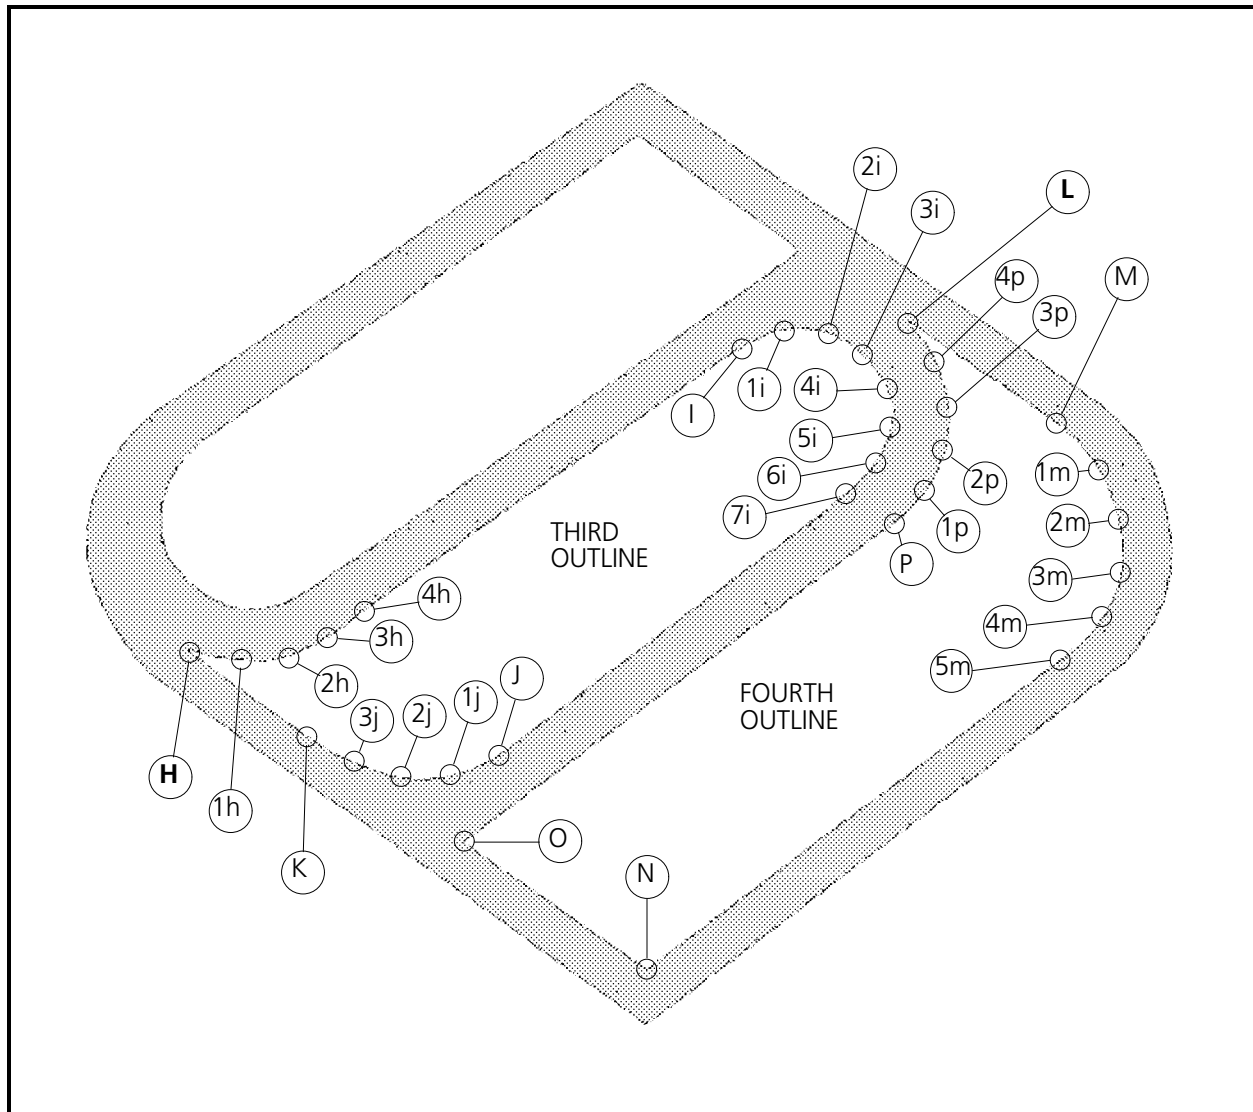

Figure 3-69
1. At this time, continue to follow the points shown in Figure 3-69 in their alpha-numeric order. Enter the Mk1 from H through to the last Mk4 at location 4p near the top point of the lower section of the logo. Enter Mk1s at the capital letter points defining lines, and Mk4s at the numbers associated with lower class letters defining arcs. Remember to enter a Mk1 in the [Enter] box at the end of the third outline (after the Mk1 at point K).